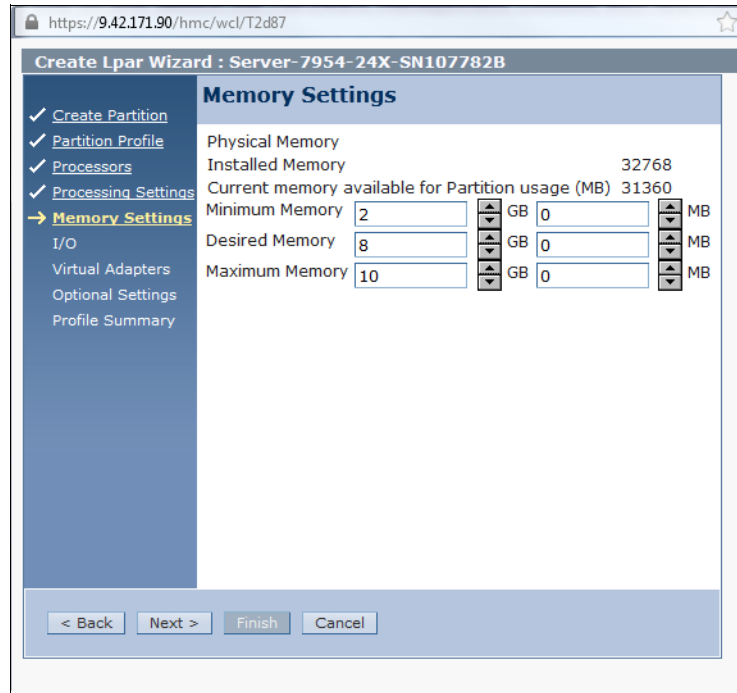

Figure 8-31 HMC Memory Settings window
This section defines the memory allocation for the LPAR in the Memory Settings window as show in Figure 8-31 on page 381.
2. After you make your memory selections, select **Next** to open the I/O window, as shown in Figure 8-31 on page 381.